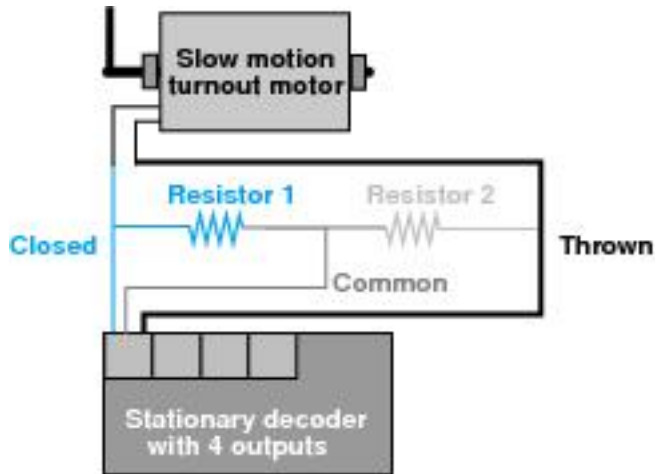

Figure 4-36: Changing slow motion motor speed
**Figure 4-36** shows how the operating speed of the slow motion turnout motor can be either slowed down or sped up. The resistors shown must be able to handle  $\frac{1}{2}$  watt of power. A resistance value of about 1k ohm is the about right to speed motors up. Test this with several values in your specific circumstances to decide the best speed for your layout.